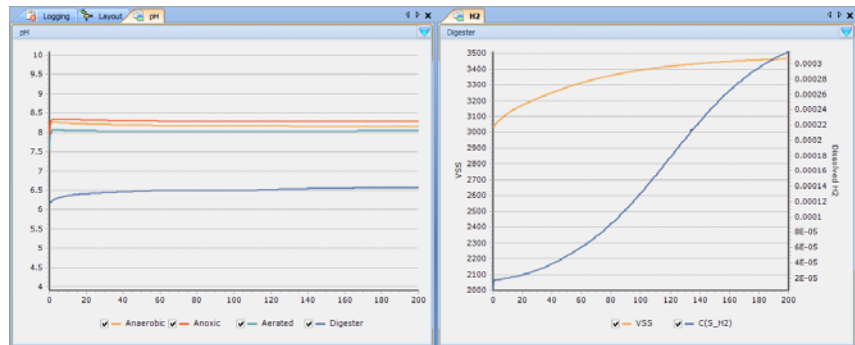
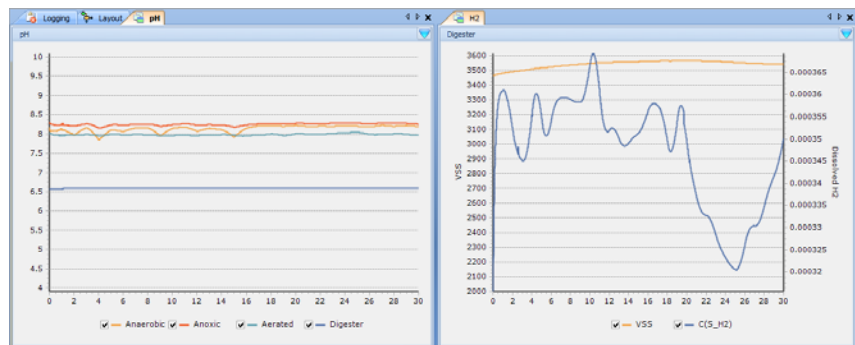

Figure 13.3 Steady-State simulation of the PWM\_SA experiment
Figure 13.4 Dynamic simulation of the PWM\_SA experiment
- The results are shown in Figure 13.3 and Figure 13.4